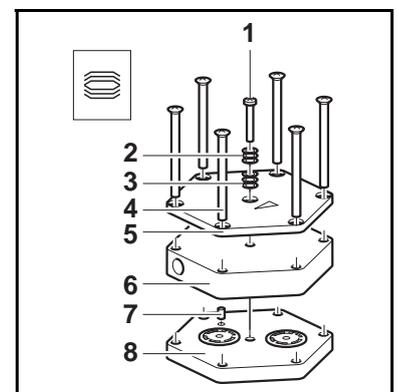

Fig. 9: Refitting pump head
1. On the pneumatic head connection (3), loosen the union nuts (2) by hand. Then slightly loosen the angle-fitting (1) in the pump head (4) by turning it anticlockwise, so that the connecting tube can be pulled out.
2. Mark the position of top plate (fig. 9/5), head plate (fig. 9/6), intermediate plate (fig. 9/8) and adapter relatively to each other by a drawing line (for two-headed pumps: at both pump heads) with a felt-tip pen. This helps to avoid incorrect assembly later.
After diaphragm and valve plates/sealings have been replaced	<ul style="list-style-type: none"> → Check that the spacers have been replaced onto the diaphragm screw thread. → Check head connection and hose connections for leaks. → Possibly carefully tighten the outer screws (fig. 9/4) of the top plate crosswise.